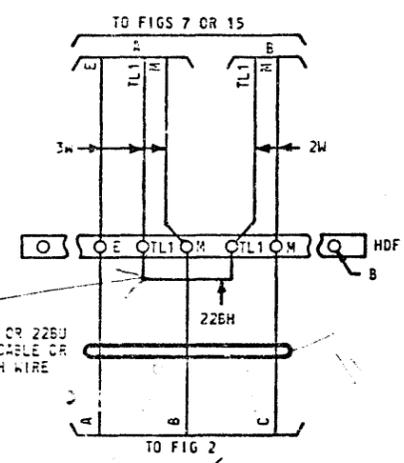

FIG 10
- 59- FIGURE 10 SHOULD BE USED WHEN A DIST FRAME CONNECTION IS DESIRED BETWEEN THE CARRIER GROUP ALARM PANEL AND THE D1 CHANNEL BANK BAY.